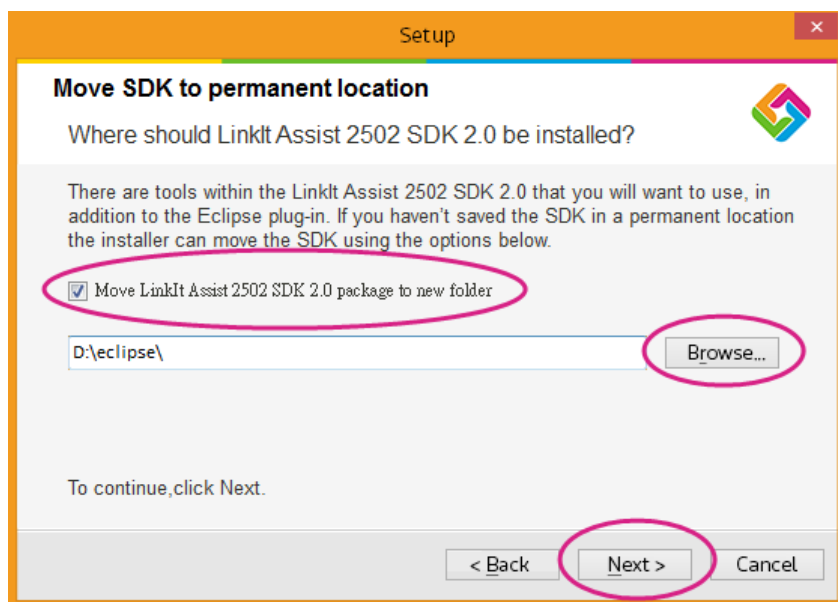

Figure 9 Option to move SDK to a permanent location
- 7) In **Move SDK to permanent location** check **Move LinkIt SDK 2.0 package to new folder** if you extracted the SDK to a temporary location. Click **Browse** to locate a permanent location in which to store the SDK as shown in Figure 9.